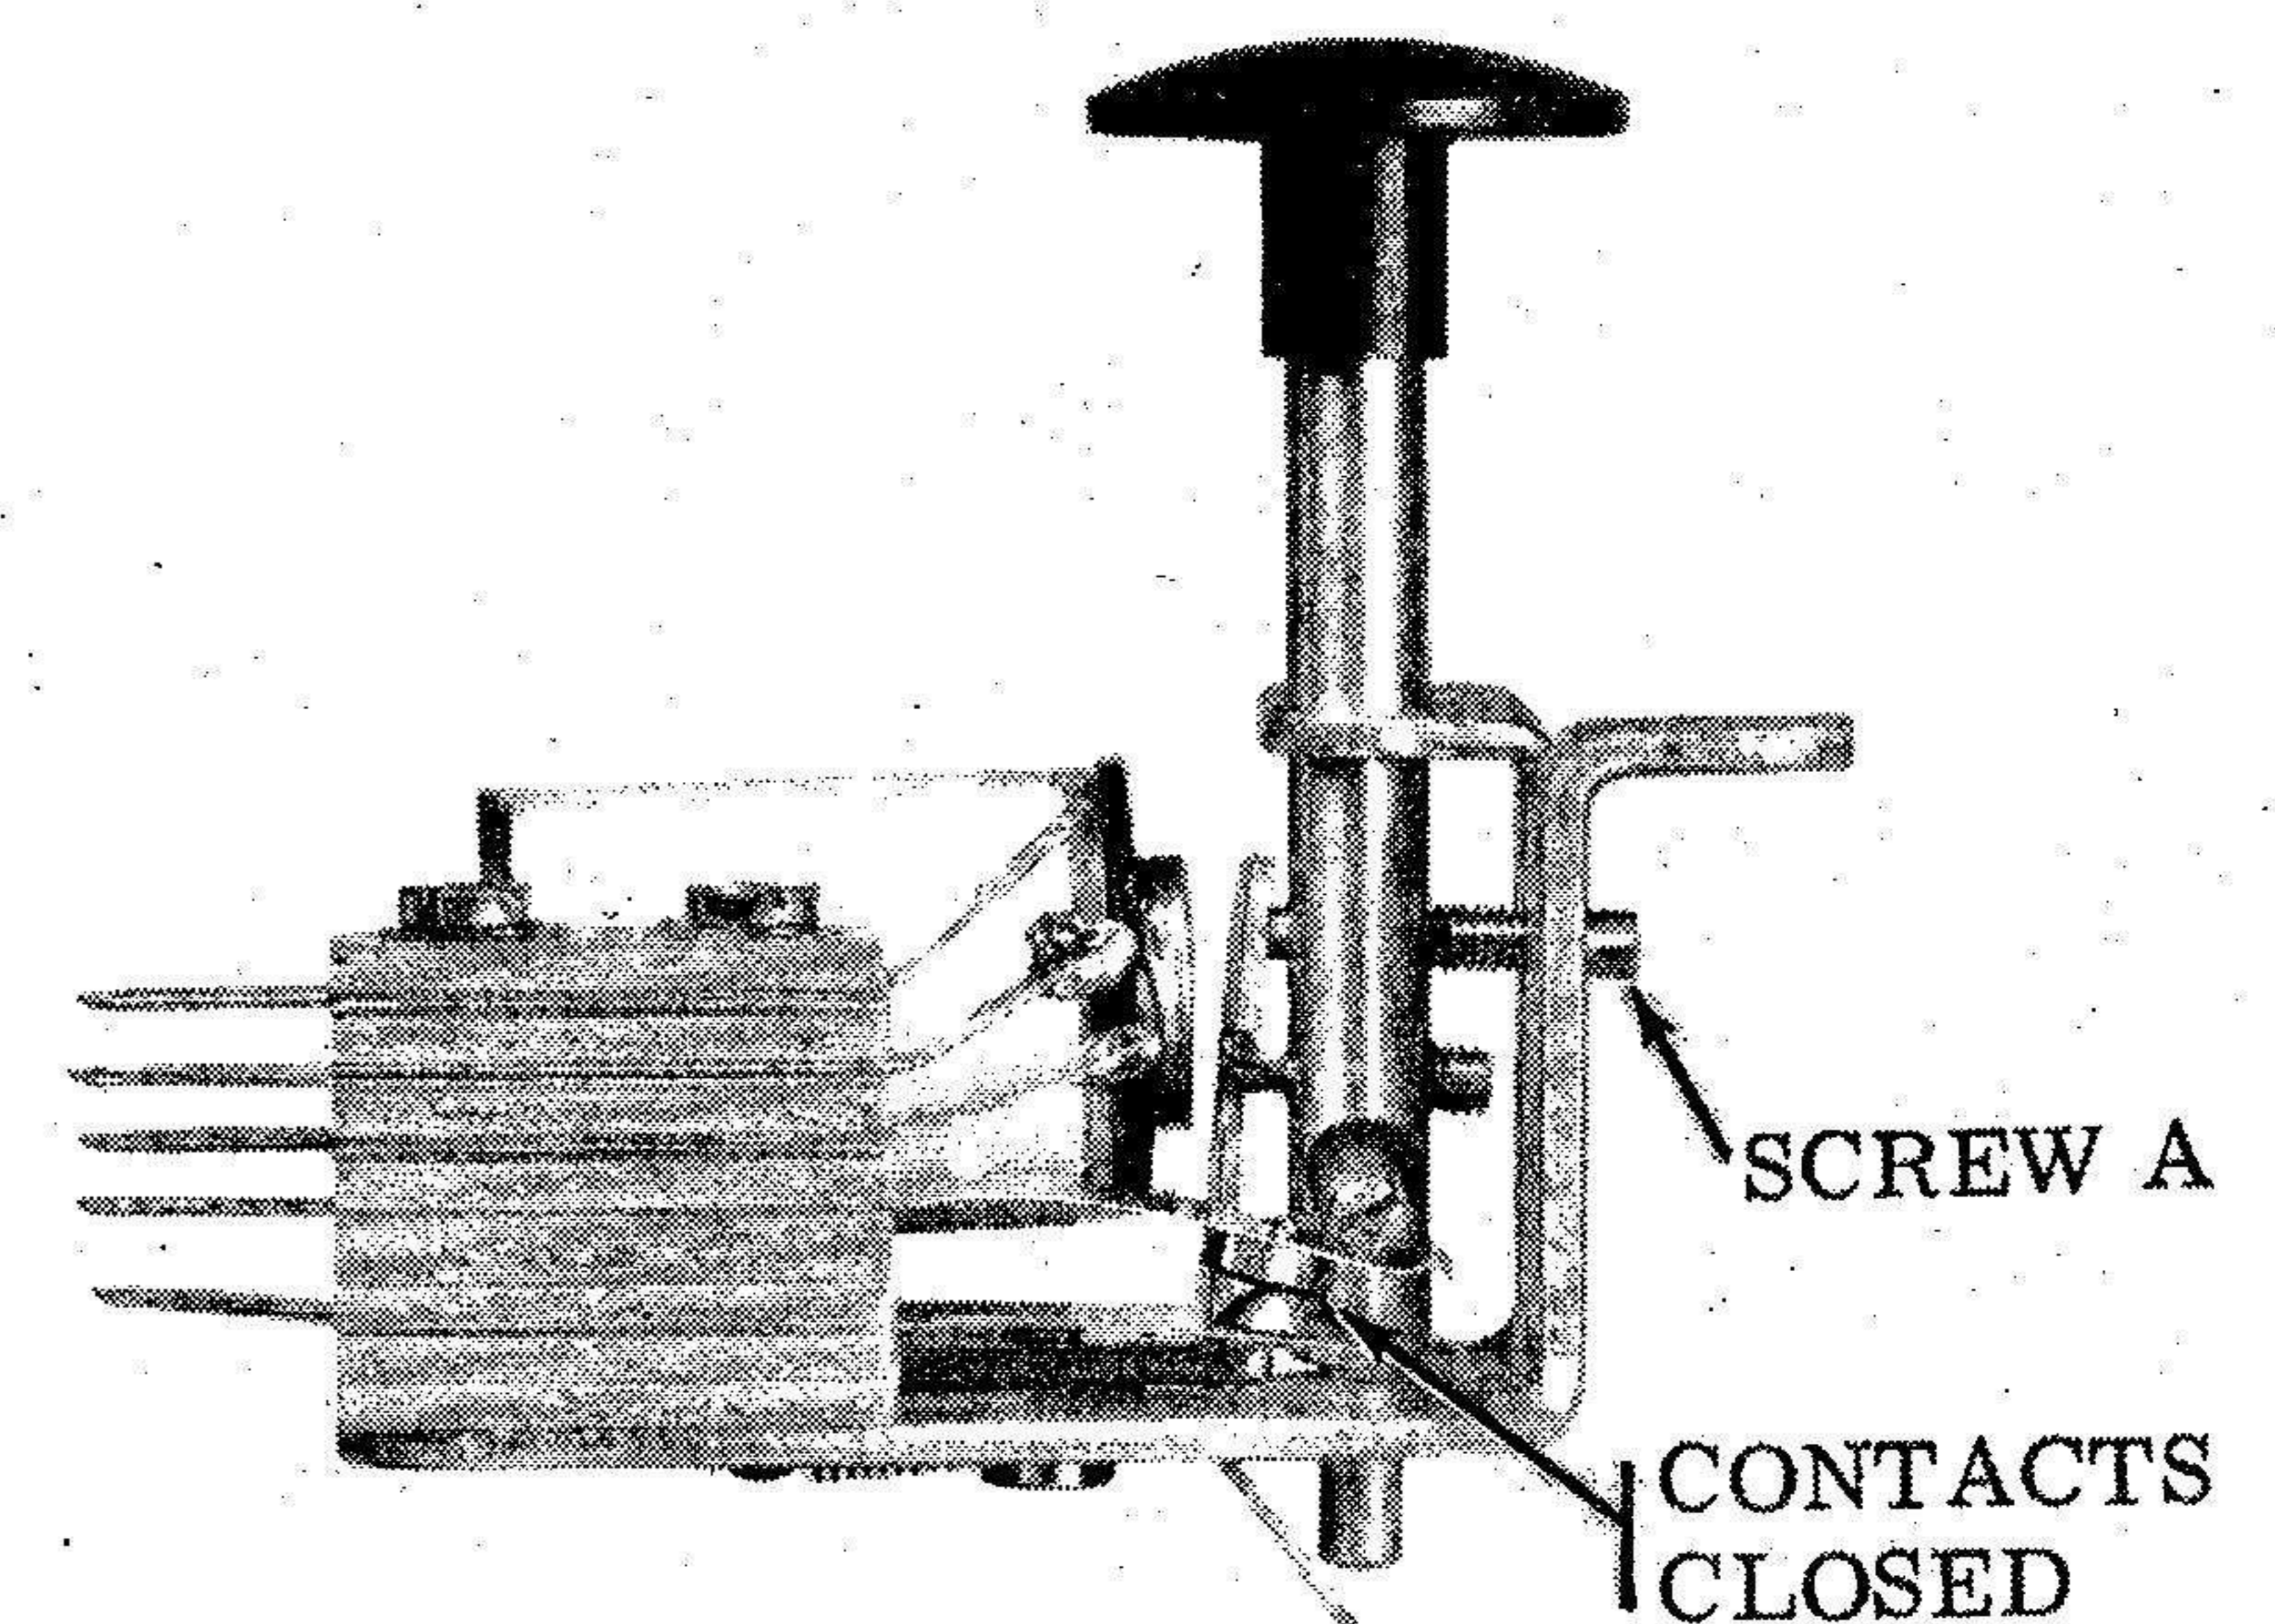

Figure 10. Relay Down - Contacts Closed
- With the relay in the down (engaged) position, check that the end of the lower screw "B" is in line with the inside edge of the armature. Any required adjustment is accomplished with the upper screw "A". Soften glyptal with thinner before adjustment and reseal with glyptal after adjustment as before. See figure 10.